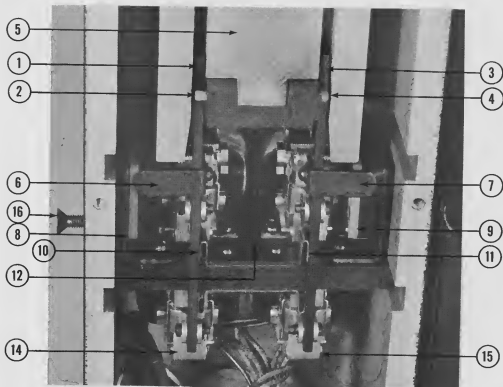

FIGURE 10
#### ADJUSTMENT OF SELECTOR OPERATING LEVERS (See Figure 10)
Should the Memory Circuit be put out of operation because of a damaged electrical unit the Quadder may be operated manually. First remove the relays (See Fold-Out), then remove the lower front cover on the Quadder Housing, and manually push operating levers (1) and (3) (Figure 10) in and out for the quadding function desired. Push in the left hand lever (1) for right flush; right hand lever (3) for left flush; and both levers for center.
For justified composition, remember to depress the lower part of operating levers (1) and (3), so the engaging pawls, (2) and (4) are in "out" position, as illustrated in Figure 10.